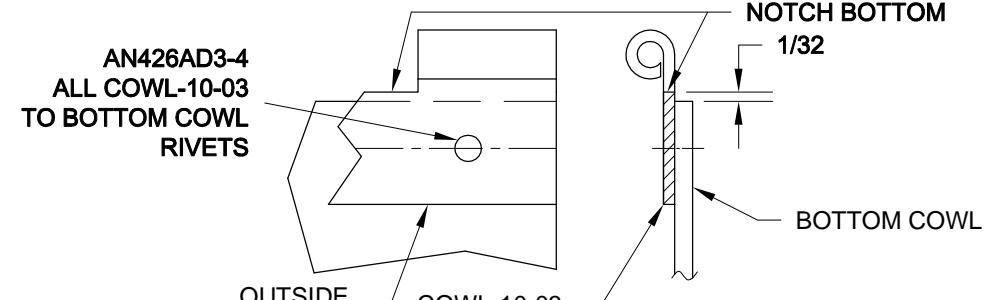

FIGURE 2: DRILLING THE BOTTOM COWL
Step 2: Clamp the lower half of both COWL-10-03 Side Hinges to the upper edge of the bottom cowl with a 1/64 - 1/32 inch gap between the notch bottom and the bottom cowl upper edge. See Figure 2. The aft edge of the side hinges should be flush with the aft edge of the bottom cowl. See Figure 3 and Figure 6.
Step 6: Rivet the lower half of the COWL-10-03 Side Hinges to the bottom cowl per the callouts in Figure 2.